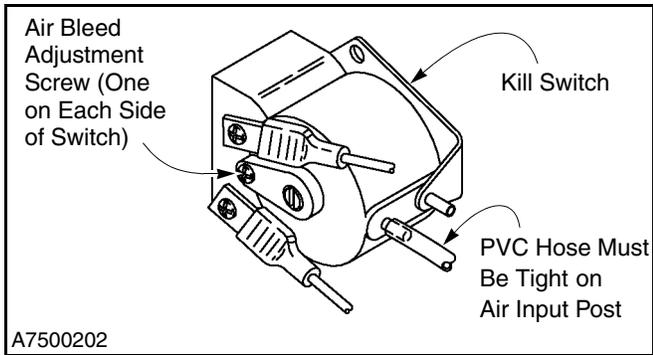

Figure 36
2. Make sure the clear PVC hose is tight on the air input post so that air leakage cannot occur and vibration will not cause the hose to fall off. Also make sure the hose is not kinked. (See Figure 36.)
3. The air bleed has been set at the factory and should not require adjustment. If adjustment is necessary, turn the air bleed adjustment screws located on the front and back of the switch fully clockwise — but do not overtighten. Then turn each screw back (counterclockwise) one full turn. (See Figure 36.)